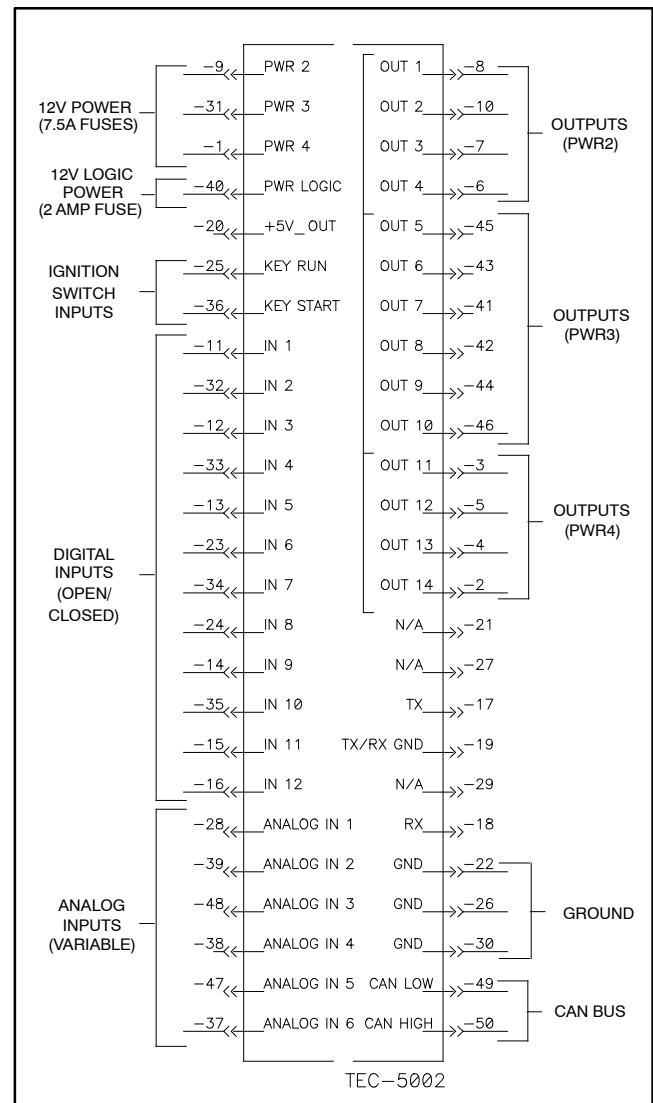
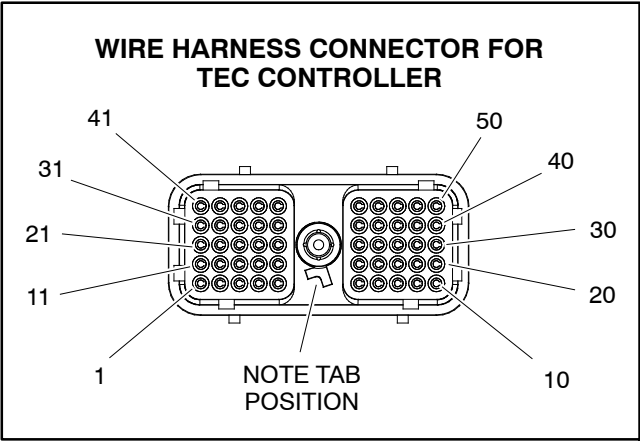

Figure 58
Figure 59
The diagram in Figure 58 depicts the connection terminal functions for the TEC controller. Note that electrical power for controller outputs is provided through three (3) connections (PWR 2, PWR 3 and PWR 4) each protected with a 7.5 amp fuse. A fifty (50) pin wire harness connector attaches to the controller. The connector pins are identified in the diagram in Figure 58. The layout of the wire harness connector that plugs into the TEC controller is shown in Fig. 59.